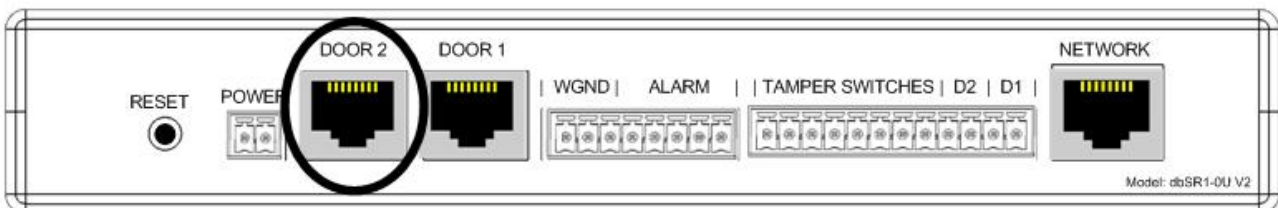
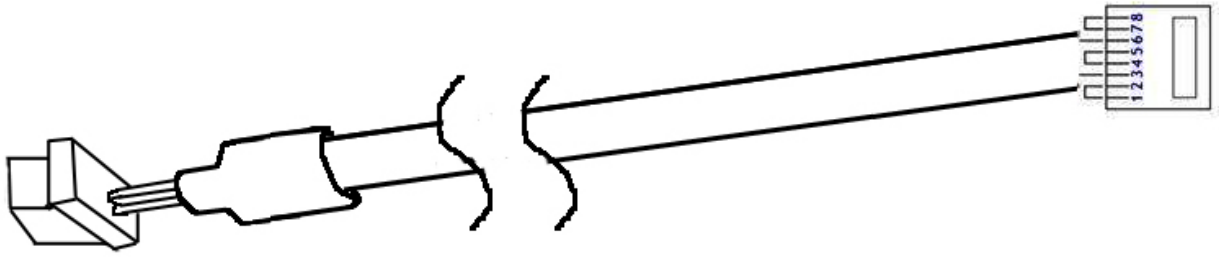

Figure 22
Figure 23
- The lock is supplied with a 10' cable with a RJ45 connector on one end (this connects as shown in Figure 22), and a lock connector on the other end. The cable is shown in Figure 23. (Note, this item is sold separately and can be ordered from your db ServerRack Access Control supplier)
- Mount the lock as shown in Figure 9, then attached the supplied cable, Figure 23